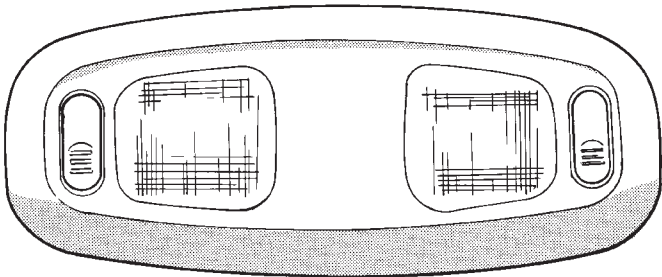

Fig. 3 Base Unit
- (3) Base unit has two map/courtesy lamps (Fig. 3).